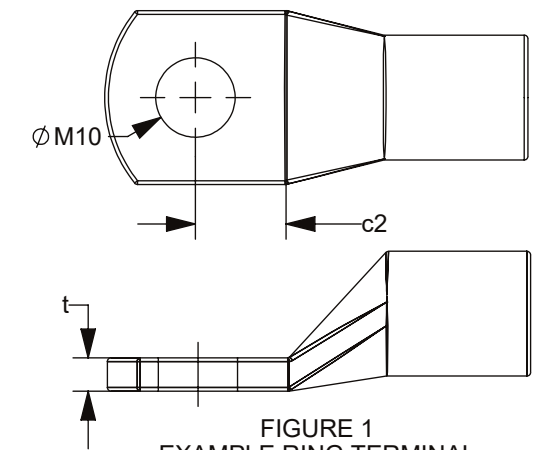

FIGURE 1
2. ASSEMBLE THE ISOLATED BOLT, M10 RING TERMINAL, & M10 ZCASE TO THE BASE ASSEMBLY. SECURE THE BOLT TO  $16 \pm 2$  N·m. BE SURE THE RING TERMINAL DIMENSIONS MATCH THE FOLLOWING REQUIREMENTS (FIGURE 1):  $c2 \geq 11$ mm. IF MORE THAN ONE RING TERMINAL SIZE IS USED, THE THICKNESS (t) OF EACH MUST BE WITHIN 2mm OF EACH OTHER.